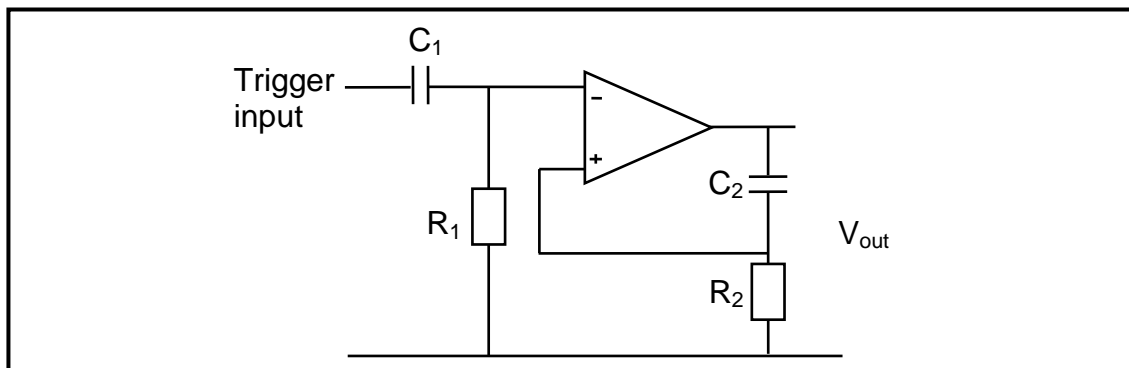

FIGURE 7.5: OP-AMP CIRCUIT
7.9 Study FIGURE 7.5 and answer the questions that follow.
- 7.9.1 Identify the op-amp circuit in FIGURE 7.5. (1)